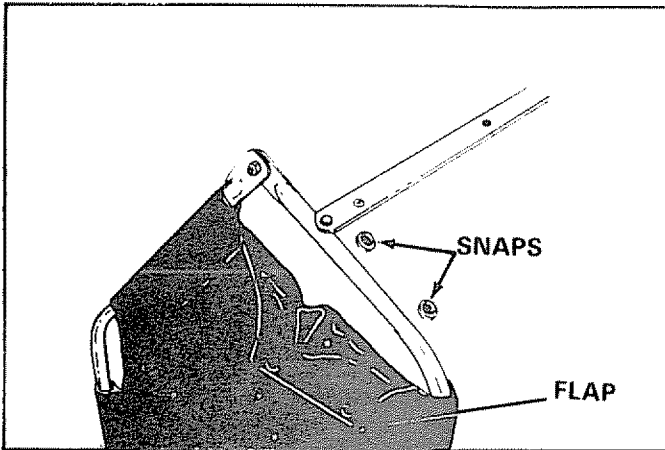

FIGURE 18
10. Secure the bag corners over lower hopper tube by snapping the flap to bag bottom on each side. See figure 18.